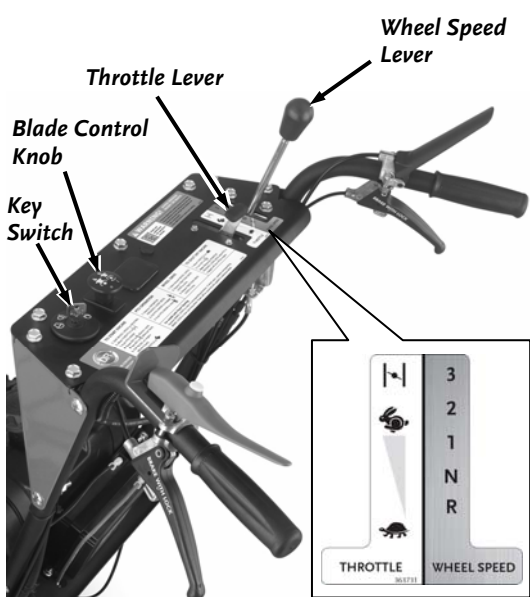

Figure 16
1. Move the Wheel Speed Lever to Neutral **N** (**Figure 16**).
3. Move the Throttle Lever to Choke  (to Fast  if the Engine is already warm) (**Figure 16**).
1. Move the Shift Lever to Neutral **N** (**Figure 16**).
5. When the Engine starts, move the Throttle to the Fast  position (**Figure 16**).